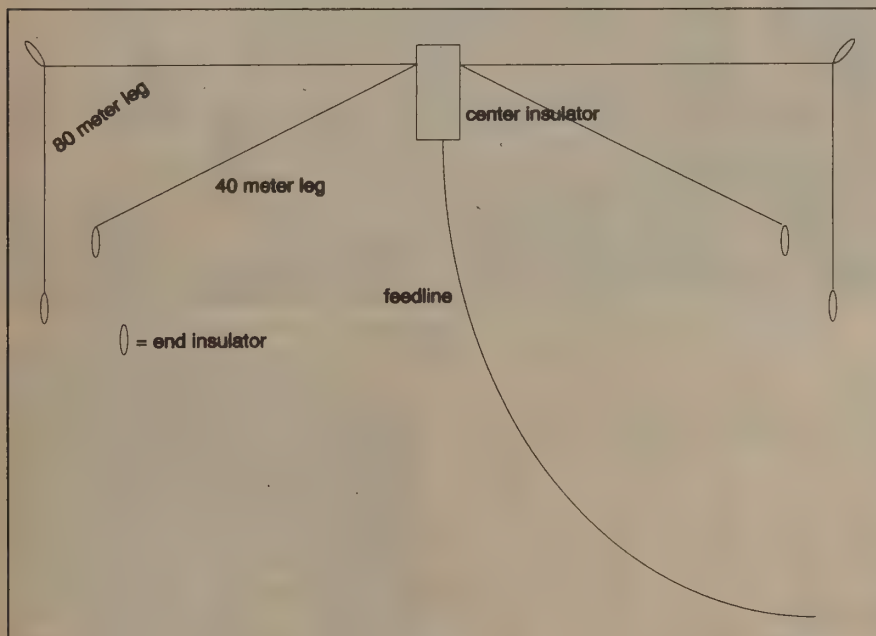

Figure 1.
Step 3. Lay out your cut wires on the ground in a manner similar to the completed antenna shown in Figure 1.
length hanging straight down. The 40 meter legs form a vee beneath the 80 meter segment (Figure 1). Supports can be trees, the tops of buildings, or small push-up towers.